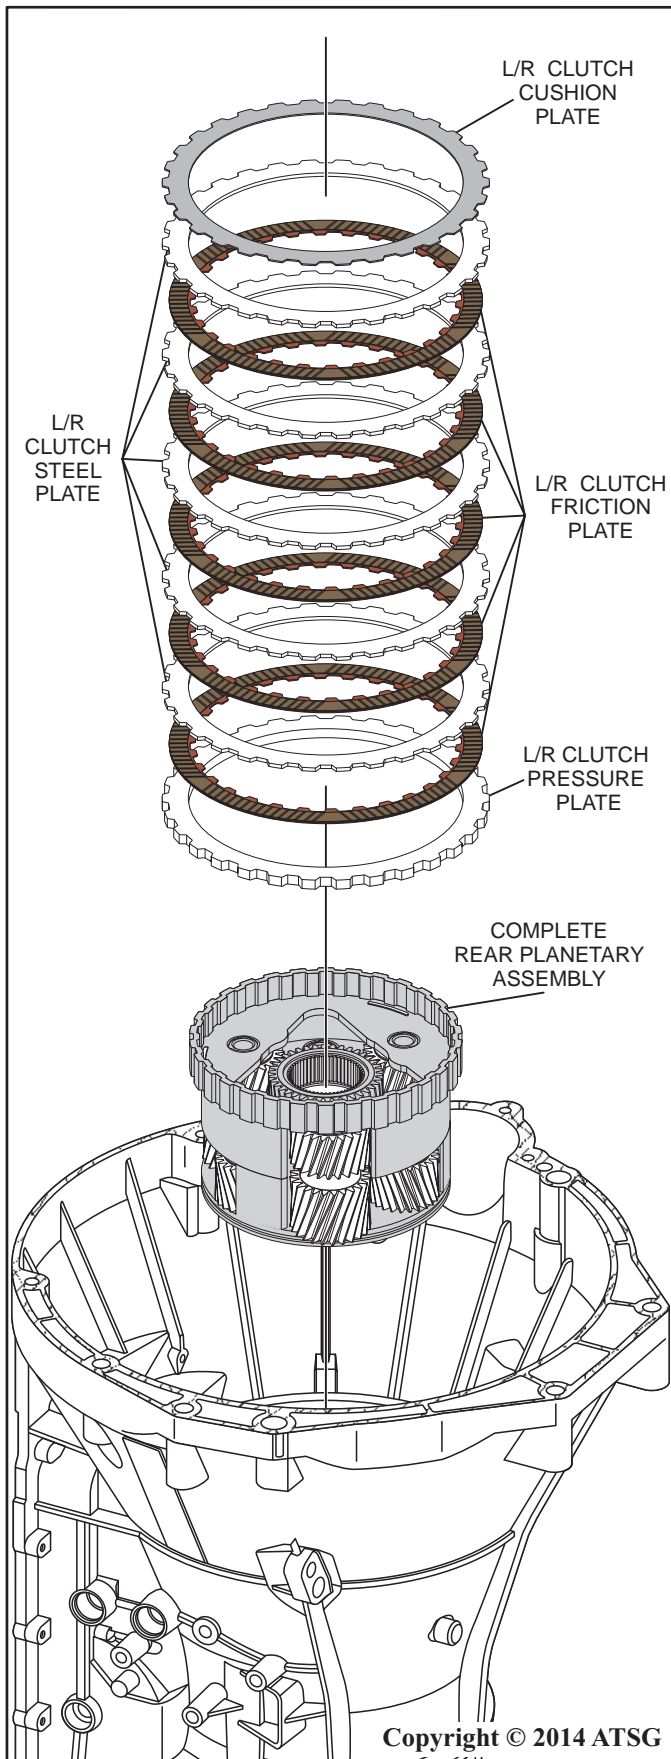

Figure 136
18. With proper clutch clearance established, install the rear planetary carrier assembly into the transmission as shown in Figure 136.
19. Install the proper low/reverse clutch pressure plate, then alternate installing friction plates and steel plates, ending with the cushion plate as shown in figure 136.